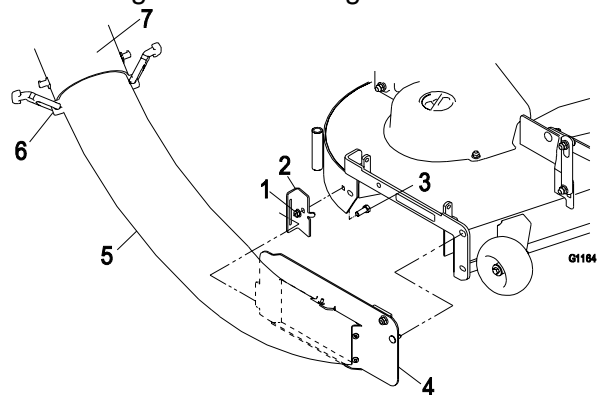

Figure 9
2. Install the boot mount bracket (item 2) onto the deck frame using the 5/16-18 x 3/4 carriage bolt (item 3) and nyloc nut (item 1) as shown in Figure 9. Bracket may stay on when converting to side discharge mode.
3. Insert the tab on the lower tube assembly into the boot mount bracket as shown in Figure 9.
6. Slide the upper tube onto the lower tube and fasten the rubber latches (Figure 9).
3. Remove the bagger mount bracket from the deck and retain all hardware see Figure 9.